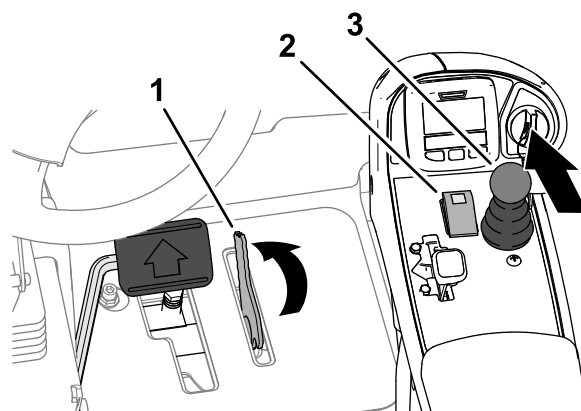

Figure 122
3. Rotate the lever for the mow-speed limiter forward to the Mow position (Figure 122).